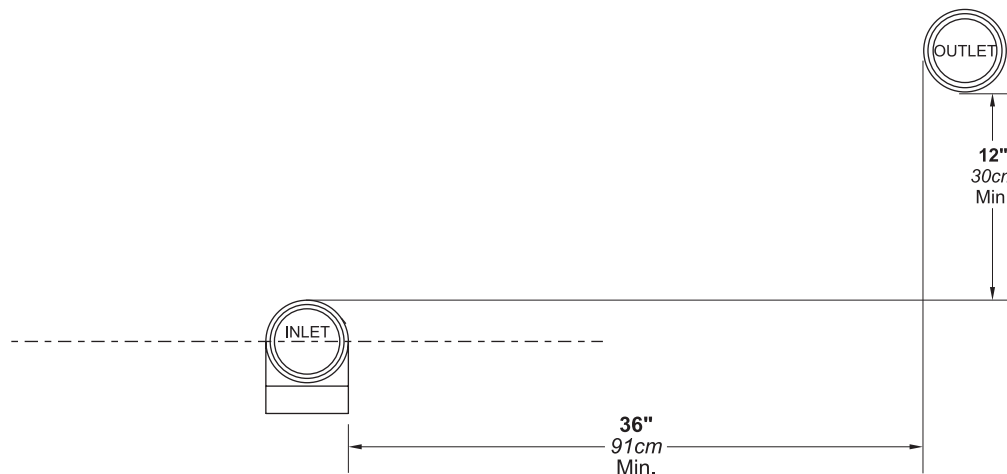

Fig. 10 - Minimum Venting Distance
6. The vent outlet must be at least 12" above the top of the air inlet, and must be at least 36" (90 cm) horizontally from the air inlet. (See Figure 10.)